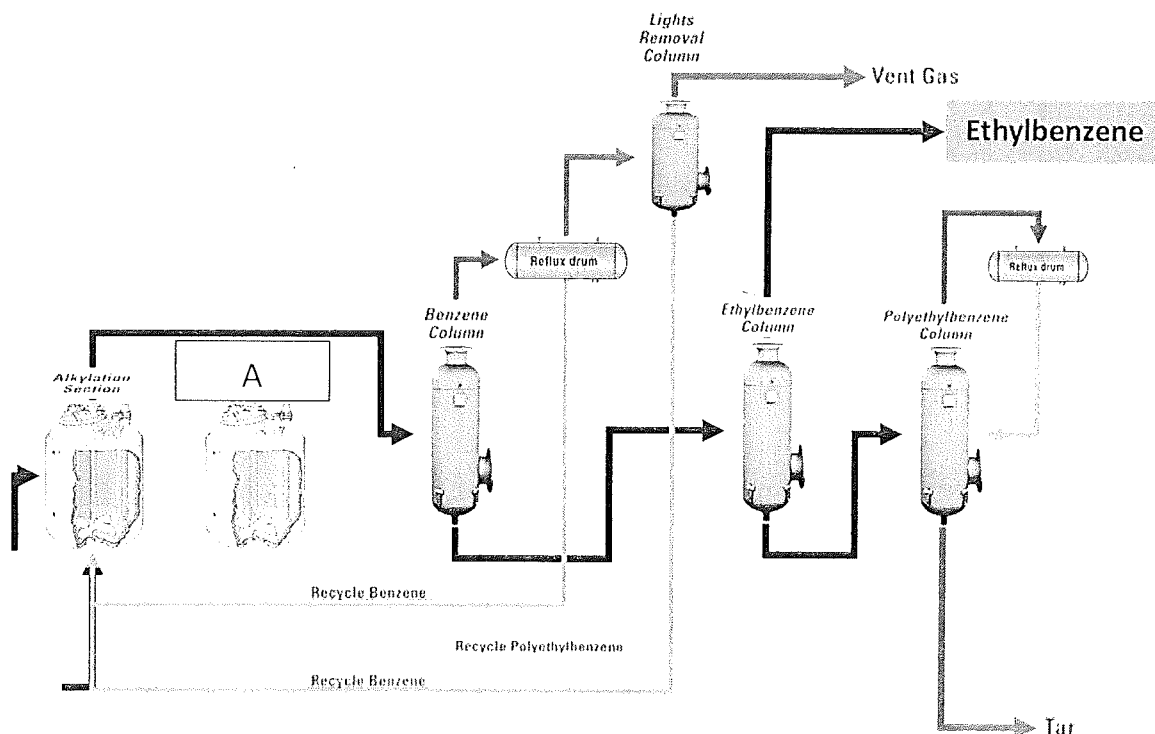

Figure 3 - Styrene manufacturing process
4. [a] In order to improve the efficiency of the styrene manufacturing process, a unit has been employed in the system (marked as A in the PFD). Name the unit, complete the process flow and briefly describe the processes occurred (refer to Figure 3).